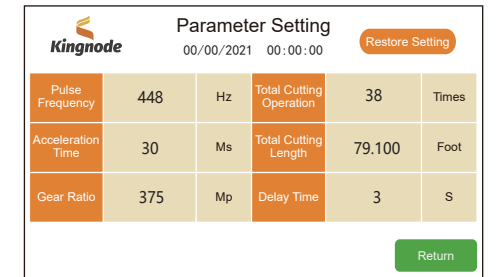

Figure 6: Parameter Setting Interface
3. Parameter: Press this function key to pop up the password input interface and enter the password (8888) to enter the "Parameter Setting" interface as shown in Figure 6.